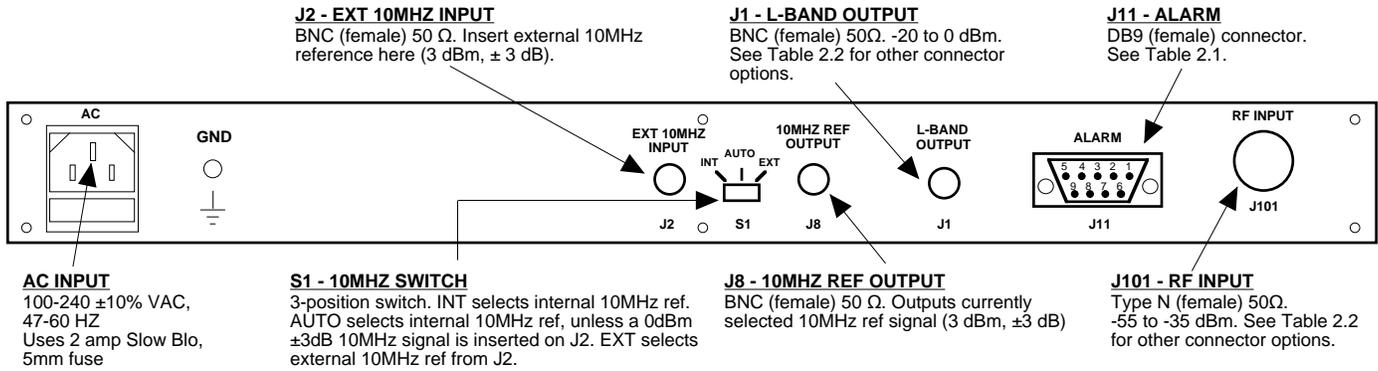

FIGURE 2.1 2116-78#-1100 Rear Panel I/O's
2.2 Rear Panel Input/Output Signals - Figure 2.1 shows the input and output connectors on the rear panel.
- 1.) Connect a -55 dBm to -35 dBm signal to RF INPUT, J101 (Figure 2.1).
- 5.) Select either INT (for internal 10MHz ref), AUTO (for internal 10MHz ref UNLESS a external 10MHz, 0 dBm signal is connected to J2), or EXT (for external 10MHz, 0 dBm ref that is inserted at J2) on rear panel switch, S1 (Figure 2.1).
- 7.) Check that a 10MHz, 0 dBm \pm 3 dB signal is present at the 10MHZ REF OUTPUT (J8) (Figure 2.1).